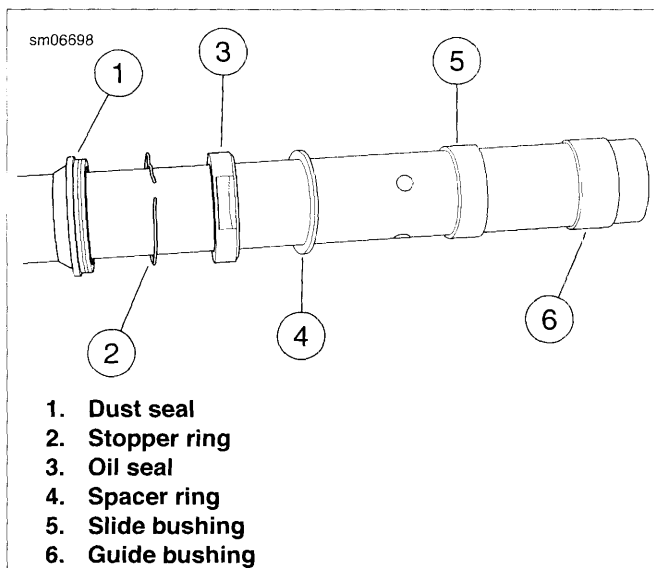

Figure 2-186. Inner Tube Components
1. See Figure 2-186. Install on the inner fork tube:
- a. The dust seal (1)
- b. The oil seal stopper ring (2)
- c. The seal with the stamp side down (3)
- d. The seal spacer with the chamfer up (4)
- e. The guide bushing (6)
- f. The slide bushing (5)